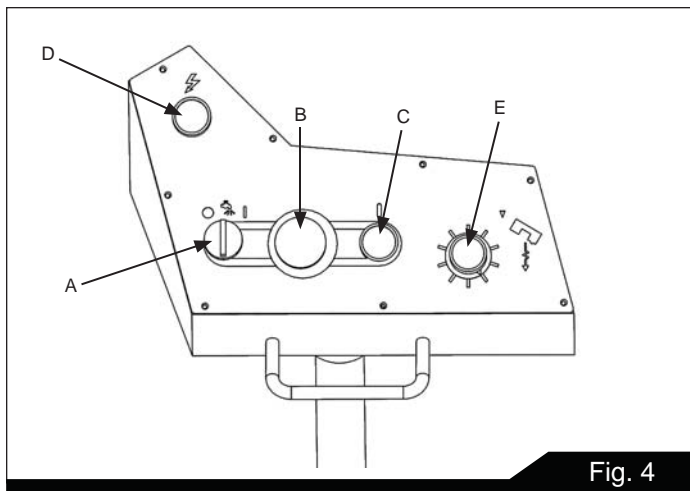
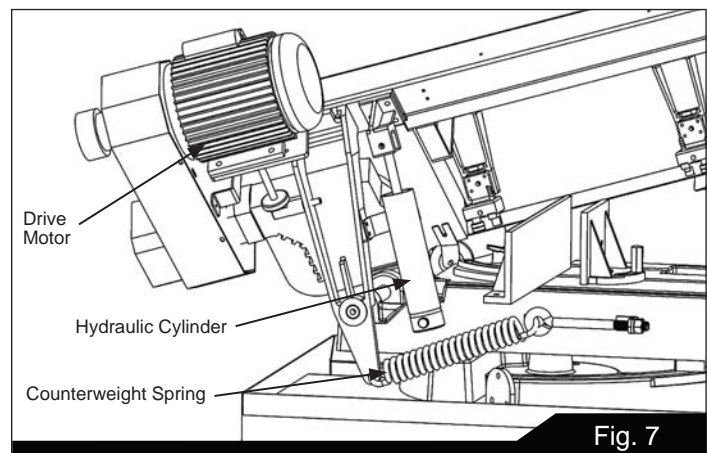

Fig. 4
Fig. 7
The operating controls for the cut-off saw are located on the control panel (Figure 4) and consist of the following controls and indicators:
The hydraulic feed control circuit consists of a single acting hydraulic cylinder (Figure 7) and a feed rate control (Figure 4). The feed control cylinder resists motion in the downward direction to control the feed rate. The control cylinder offers no resistance when raised upward.
The feed rate control knob (Figure 4) controls the rate at which the saw head is lowered. The control knob (needle valve) controls the rate at which the hydraulic fluid is released from the hydraulic cylinder. When the needle valve is closed, the cylinder is locked. With the needle valve slightly open, the cylinder permits slow, or light, downward force. Opening the needle valve further increases the feed rate and applies more force to the saw blade and workpiece.
- by the coolant selector switch (A, Fig. 4) on the control box (the preferred method)